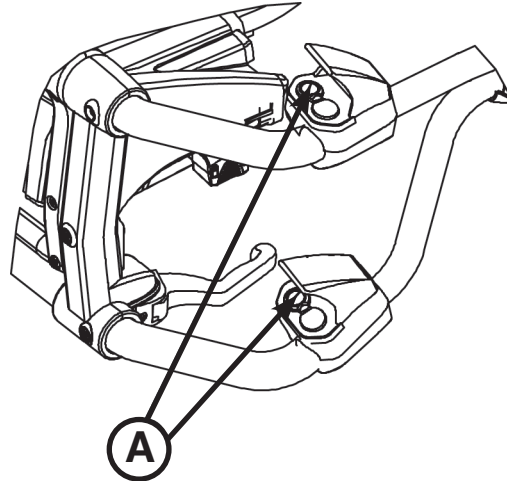
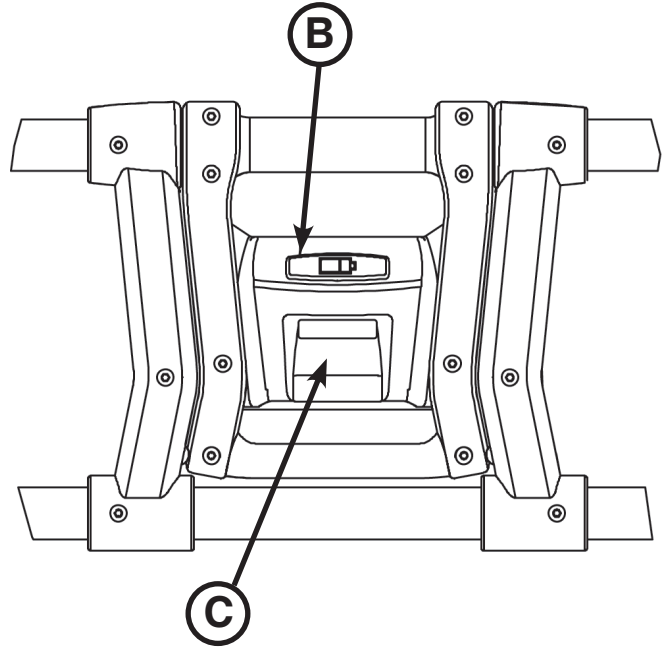

Figure 18: Retract Button - Control Switch
Figure 19: Foot End Control Enclosure
To check the battery power level, press the retract (–) button (A) as shown in Figure 18 on the cot control switch to activate the cot battery LED indicator (B) as shown in “Figure 19: Foot End Control Enclosure” on page 33.
The hour meter (C), located on the foot end control enclosure, indicates the amount of time (HHH.H hours) that the hydraulics have been activated as shown in Figure 19. You can use the hour meter to determine the frequency for preventative maintenance procedures as listed on page 78.